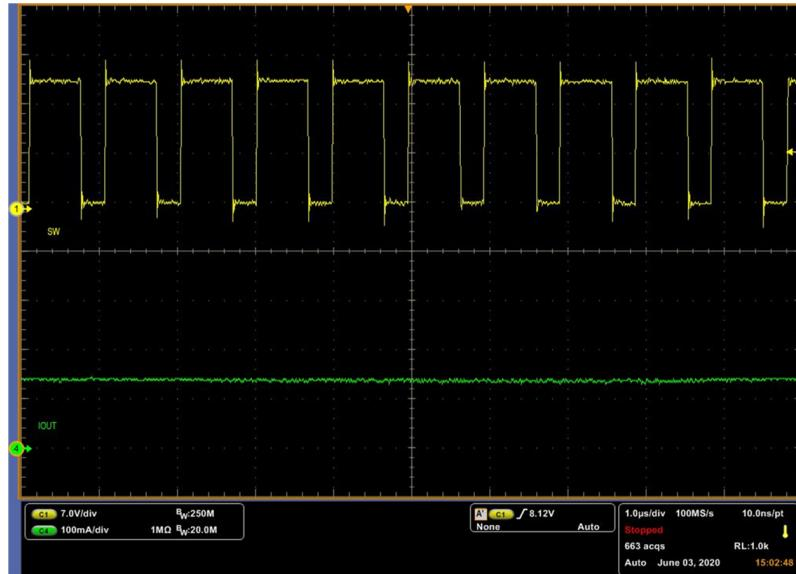
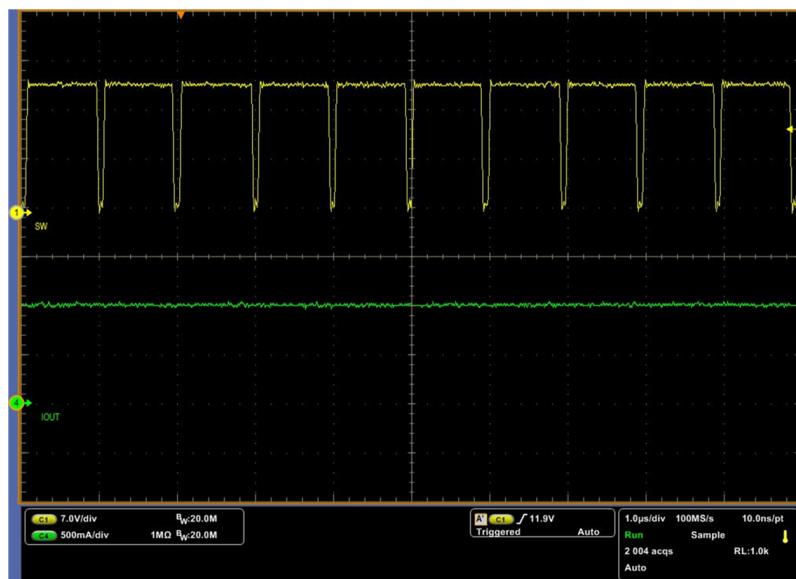
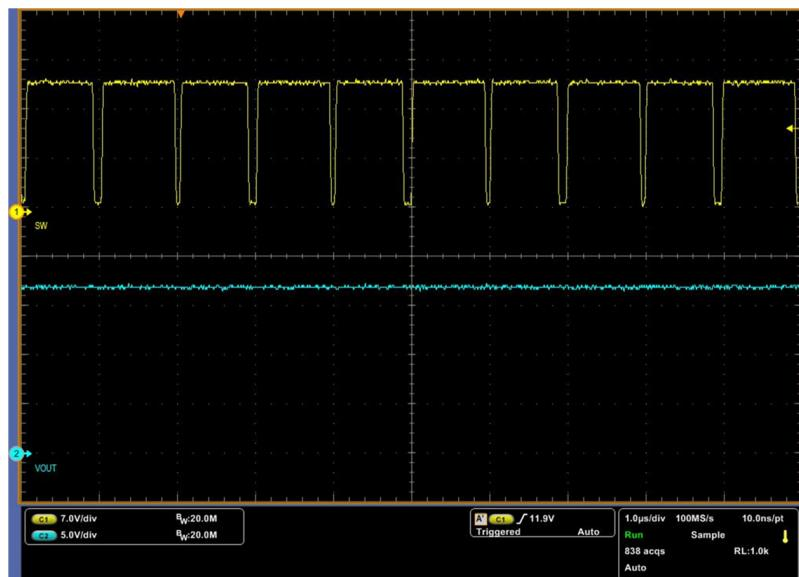

Figure 3-2. Pre-Charging Mode Steady State
Figure 3-3. CC Mode Steady State
Figure 3-4. CV Mode Steady State
Figure 3-2 shows the steady state of pre-constant current (Pre-CC) mode. **Figure 3-3** shows the steady state of constant current (CC) mode and **Figure 3-4** shows the steady state of constant voltage (CV) mode. The blue curve (CH4) is the output voltage and the purple curve (CH1) is the switching frequency. The CV mode is tested at the following conditions: output voltage at 16.5 V and the output current at 0.5 A; the CC mode is tested at the following conditions: output voltage at 15 V and output current at 1.0 A.